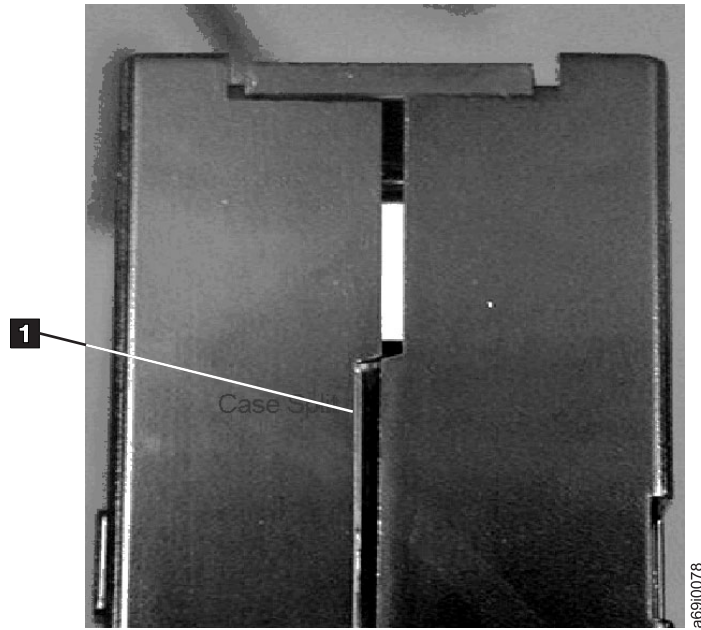

Figure 40. Gap in cartridge seam
3. Inspect the rear of the cartridge (the part that you load first into the tape load compartment) and ensure that there are no gaps in the seam of the cartridge case. (Refer to **1** in Figure 40 on page 158. If there are gaps in the seam, the leader pin may be dislodged and may need to be repositioned.)